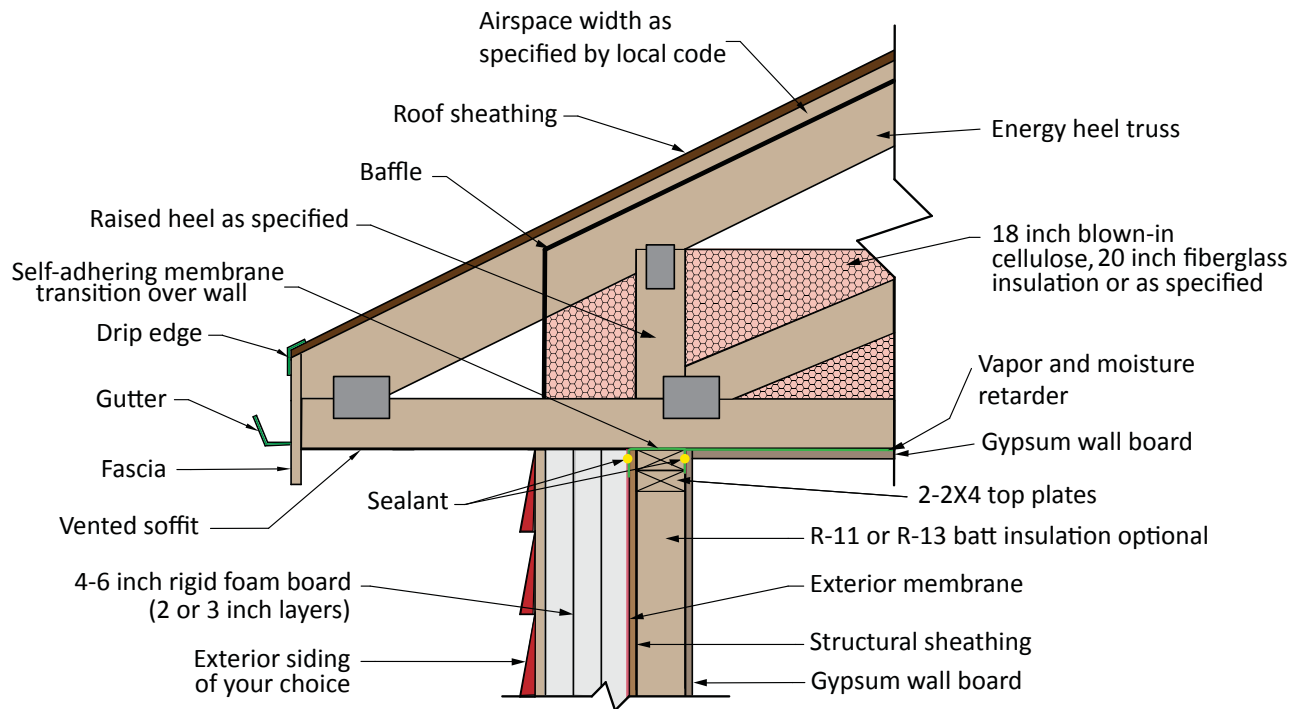
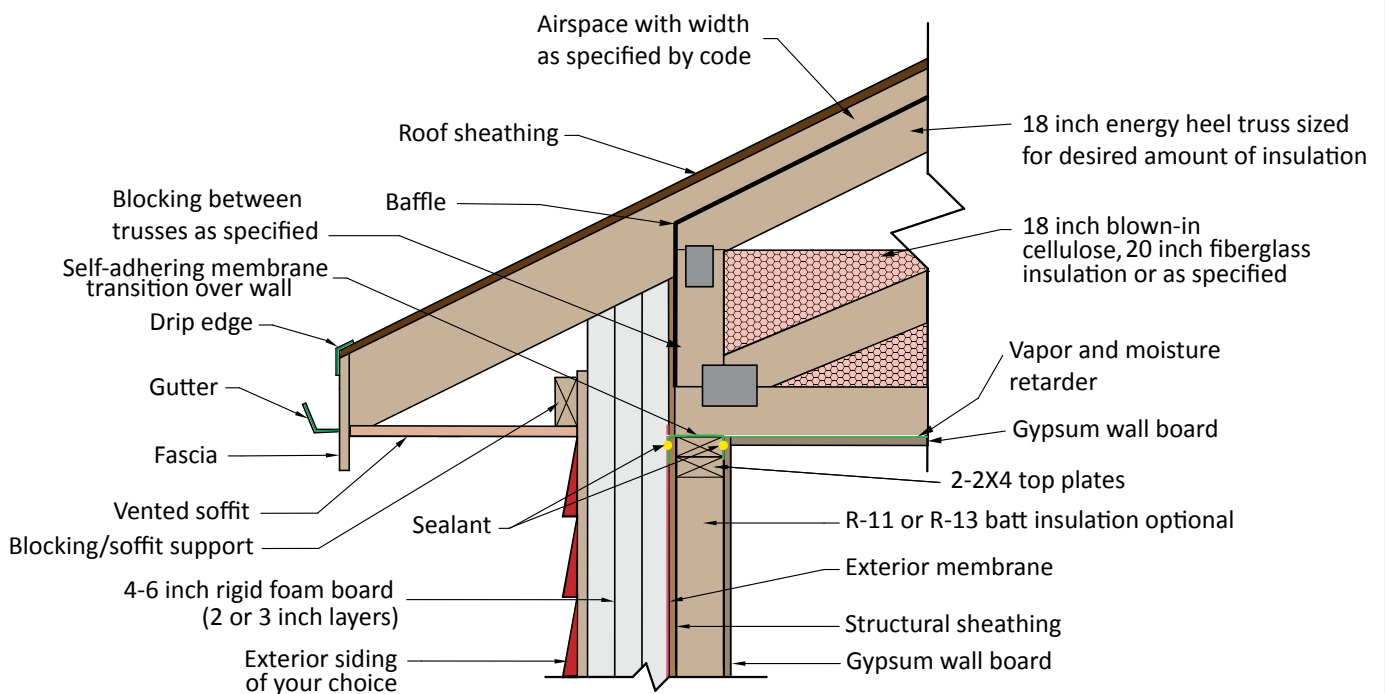

Figure 2. BRACING WITH ROOF INSULATION OVER WALL INSULATION
Figure 3. BRACING WITH ROOF INSULATION ABUTTING TOP CHORD, DEEPER ENERGY HEEL TRUSS
Choosing which type of truss to use should be made early on. Wall insulation and attic insulation must meet at the same height in order to maintain a continuous thermal barrier. This can be accomplished by either extending the attic insulation out over the top of the wall to line up flush with the wall insulation (Figure 2), or extending the wall insulation up into the truss bays high enough to be level with the top of the attic insulation (Figure 3). Plan your interior and exterior insulation strategy around your truss choice (Figures 2 and 3). For high energy performance, it is critical to have continuous coverage where the outside walls transition to the truss bays.
- If the code allows, diagonal bracing can be substituted for solid blocking directly over the walls. A cardboard baffle can then be added to the exterior side of the blocking in plane with the outside of the wall foam board. This way cellulose insulation can be blown between the braces from inside the attic, all the way out flush to the exterior of the wall (Figure 2).